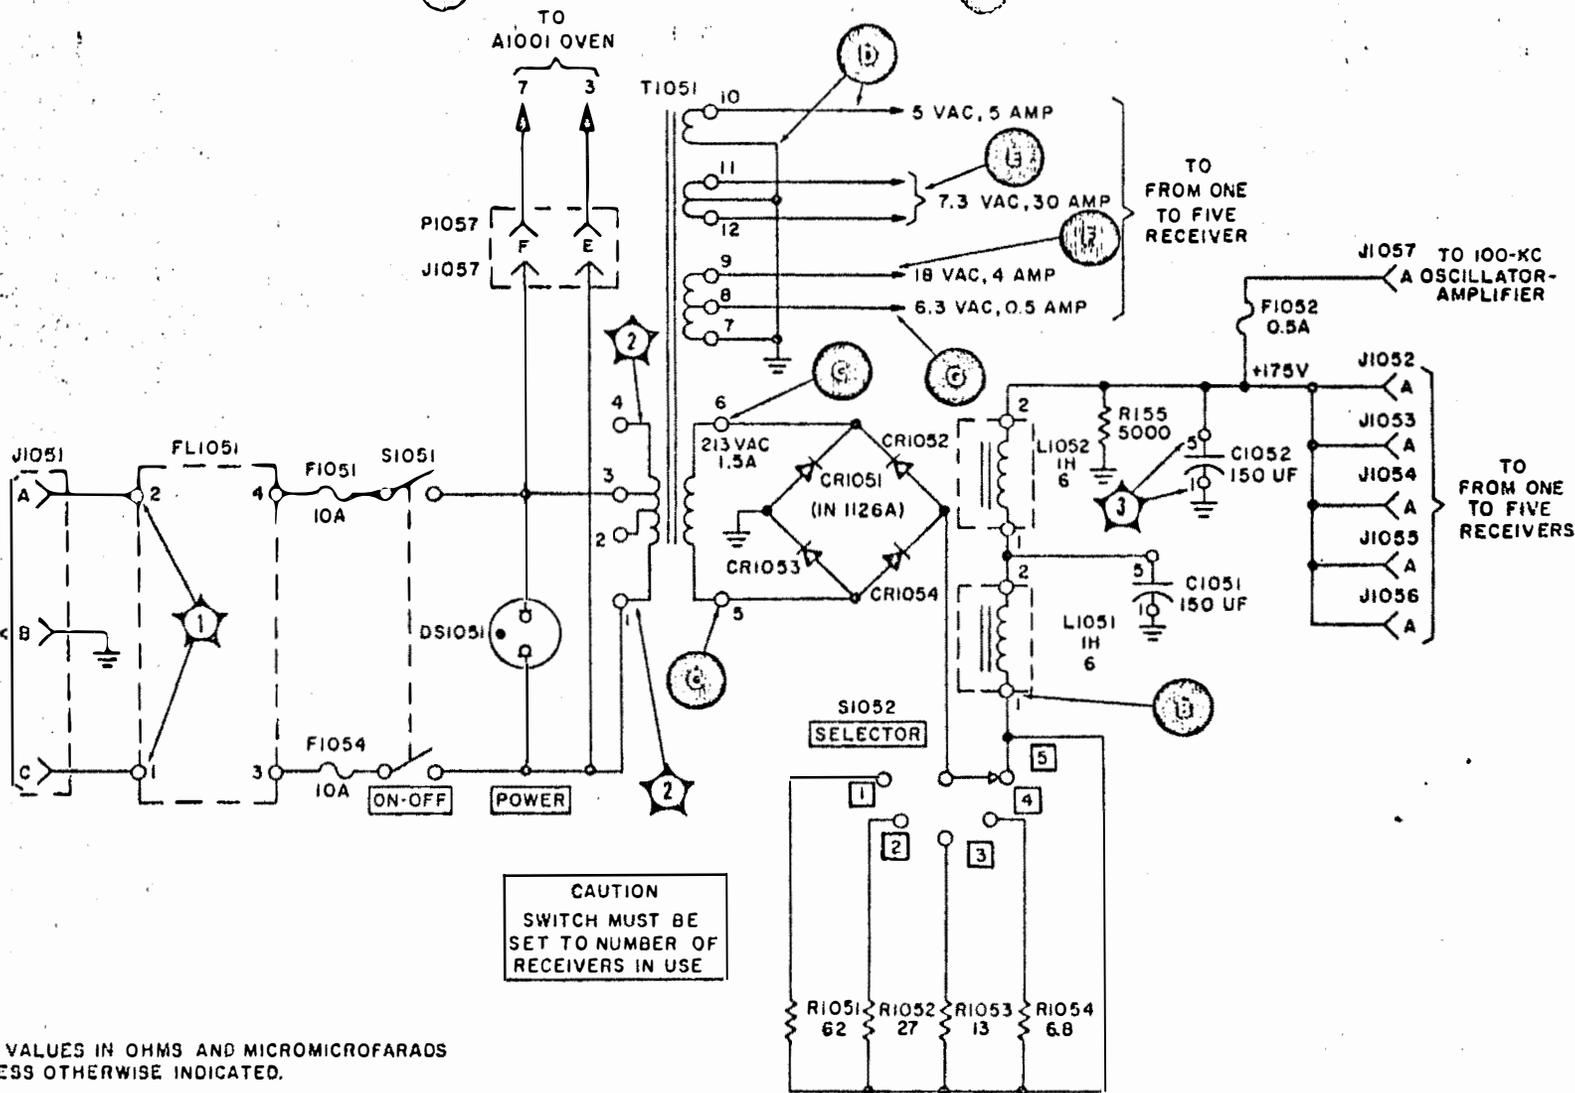
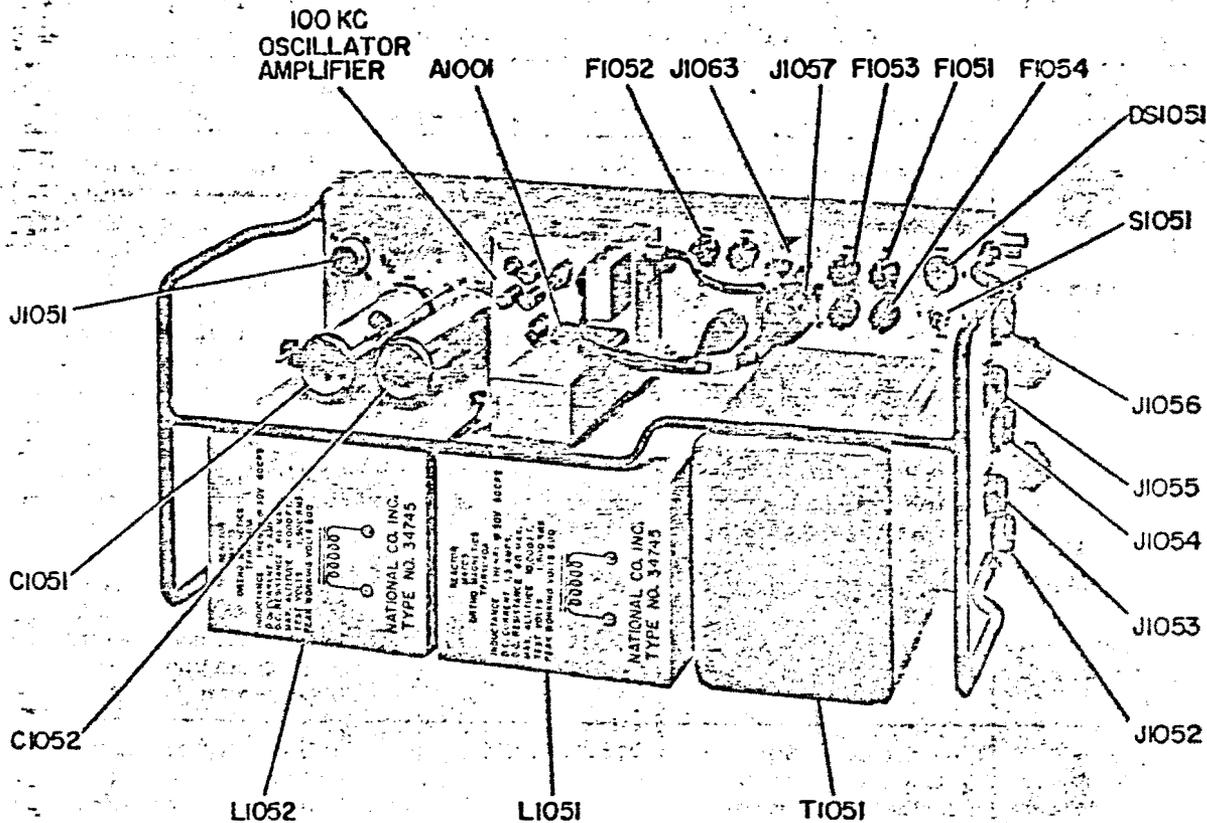

Figure 5-2. Power Supply, Functional Schematic Diagram
Figure 5-3. Oscillator-Power Supply O-928/FLR, Top View, Location of Parts
a. **GENERAL.** - The power supply section of the O-928/FLR provides plate and filament voltage for the operation of one to five receivers (R-1125/FLR). It also supplies plate and filament power to the 100-kc oscillator-amplifier section in the O-928/FLR. Faulty operation of the power supply will cause erratic receiver operation or disable the receiver entirely. Figure 5-2 is a functional schematic diagram of the power supply; figures 5-3 and 5-4 show the location of parts.
- (1) Cable connections at J1051 and J1057, and connectors J1052 through J1056.
- (2) Fuses F1051 and F1054.
- (3) Clamps for plug-in capacitors C1051 and C1052.